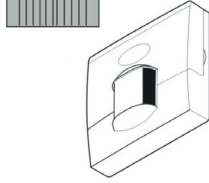

Fig. 10 Silver Label
5. To reduce the detection area, user can put on the silver label which is supplied with this instruction manual to cover the lens. (See Fig.10)